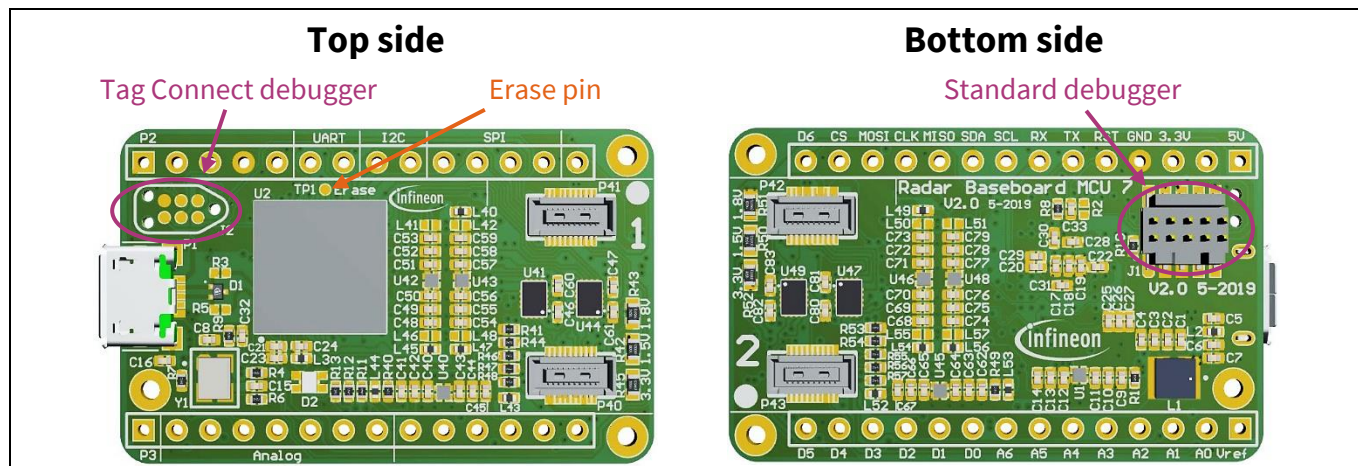

Figure 13 Debug connectors on the radar baseboard MCU7
If the user requires a debugger connector, the board features two options, as illustrated in Figure 13. On the top side of the radar baseboard MCU7, there is the layout for a Tag Connect debugger. If the user does not want to buy a Tag Connect debug cable, they can solder a normal 10-pin ARM debugging connector to the pads of component J1 on the bottom side of the radar baseboard MCU7.
- Hold the MCU ERASE pin to high by connecting TP1 to 3.3 V (see Figure 13).